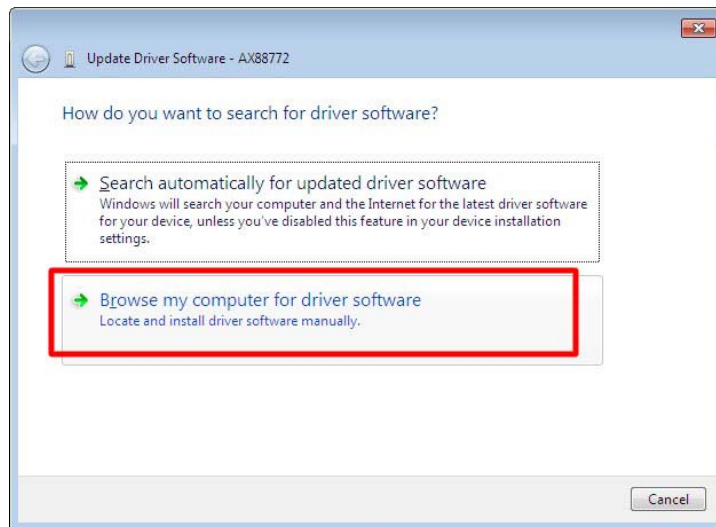

Figure 6-17: Search Options Window
Step 8: The following window (**Figure 6-17**) appears.